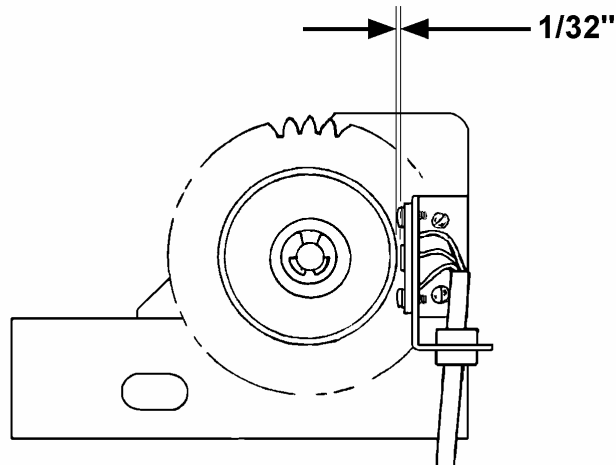

Figure 2
4. Place the pulse generator [Fig. 2] lower bracket over the cross brace bolt hole and reinstall the bolt. **DO NOT TIGHTEN** at this time.